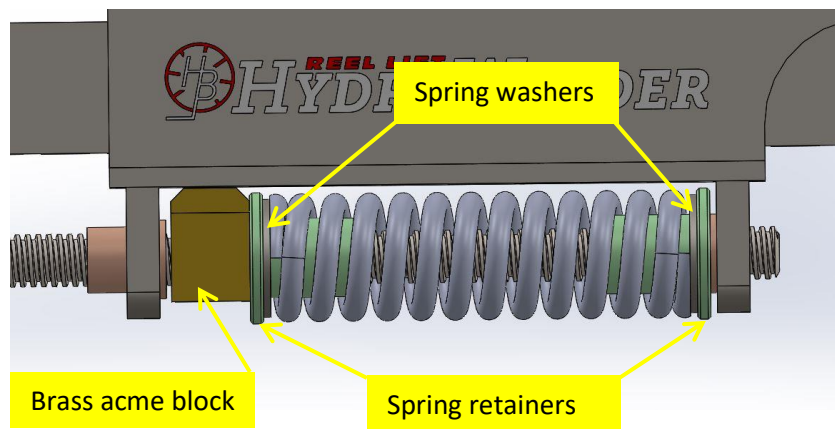

Figure 8
10. Refer to Figure 8 for placement of the remaining components of the side plate assembly and thread the acme rod through the components and to the front guide hole. **Figure 8**